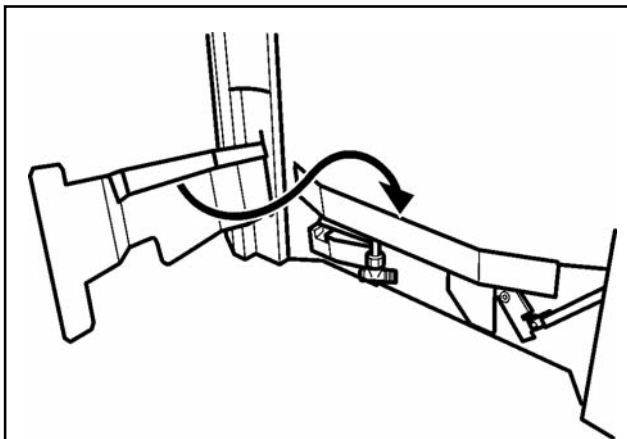

Figure 34. Fitting the burner baffle (Dream and Visage models only)
4. Fit the burner baffle to the front flanges of the burner. To do this, place the baffle against the front flanges of the burner and lower into position. The return edges on the rear of the baffle should slot over the front flanges of the burner (See figure 34).
2. Fit the burner baffle to the front flanges of the burner. To do this, place the baffle against the front flanges of the burner and lower into position. The return edges on the rear of the baffle should slot over the front flanges of the burner (See figure 34).